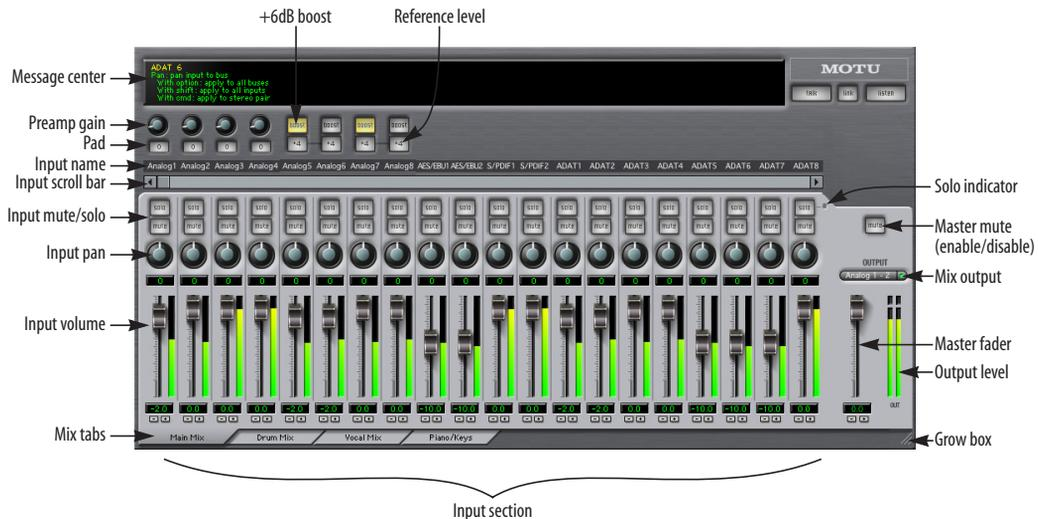

Figure 11-1: CueMix Console is a virtual mixer that gives you control over the Traveler's on-board mixing features.
CueMix Console displays one mix at a time. To select which mix you are viewing, click its tab at the bottom of the window, as shown in Figure 11-1. The mix name appears in the tab. Double-click the name to change it.
To view more input faders at once, drag the grow box (Figure 11-1) to the right.
To view a mix, click its tab at the bottom of the window, as shown in Figure 11-1. The mix name appears in the tab.
The master mute button (Figure 11-1) temporarily disables (silences) the mix.
The master fader (Figure 11-1) controls the overall level of the mix (its volume on its stereo output). Use the individual input faders to the left to control individual input levels.
To add an input to a mix, or remove it, click its MUTE button. To solo it, use its SOLO button. To toggle these buttons for a stereo pair, hold down the command key while clicking either channel. The Solo indicator LED (Figure 11-1) lights up when any input is soloed (including inputs that may currently be scrolled off-screen).
Use the input fader and pan knob (Figure 11-1) to adjust these settings for the input in the mix. Again, all settings within the gray-shaded channel strip area belong to the mix currently being viewed. Note that an input can have different settings in different mixes.
- 1 Select the source mix (Figure 11-1) and choose Copy from the file menu (or press command-C).
The preamp gain, pad, reference level and +6dB boost settings at the very top of the CueMix Console window (Figure 11-1) affect each input globally, across all mixes and for audio being routed to the computer. For example, if you add 6dB of boost, your host software will receive the boost for that input as well.
This setting (Figure 11-1) adjusts preamp gain, just like the four trim knobs on the front panel of the Traveler.
These buttons (Figure 11-1) toggle the pad for each mic input. Clicking these buttons is the same as pushing the trim knobs on the front panel.
This setting (Figure 11-1) adds 6 dB of gain to the input signal. This setting is applied globally for the input.
Choose Edit Channel Names from the CueMix Console File menu to open a window that lets you customize the names of the Traveler’s inputs and outputs. Your custom names appear in CueMix Console (in the input name strip as shown in Figure 11-1 on page 79) and in the input and output menus of your host audio software. For details, see “Edit Channel Names” on page 48.